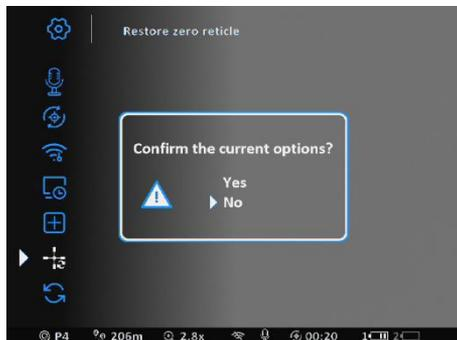

Figure 33 Zeroing Confirmation Interface
F) Scale Reset: The position of the scale line returns to its default initial position. If you confirm the scale reset, the interface shown in Figure 33 will appear for confirmation.